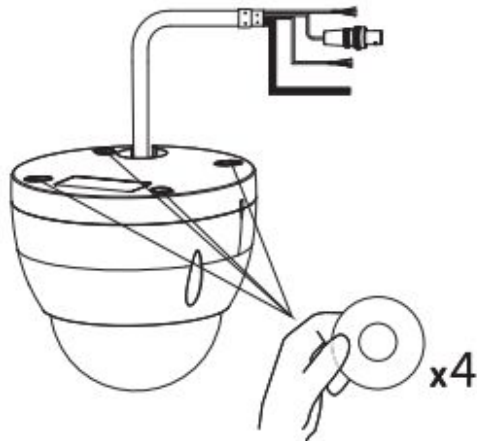

Figure 2-2
**Step 2** For outdoor installation, four rubber grommets are provided for the mounting screws to waterproof the base. See Figure 2-2.